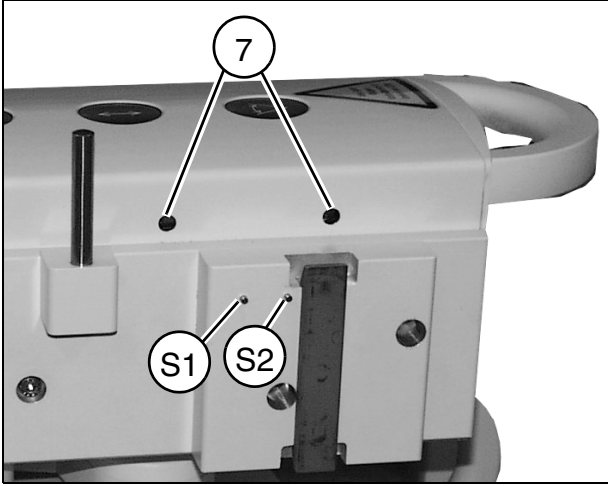

Fig. 29
- Tighten the plate (9/Fig. 29) with a torque of 18 Nm.
- Tighten the plate (8/Fig. 29) with a torque of 10 Nm.
- When activating pin S1 (Fig. 29), the travel movement of the vertical column is blocked.
- When activating pin S2 (Fig. 29), both movement directions of the vertical column are blocked.
- The screws behind the opening (7/Fig. 29) should be loosened only. Move switch until switching function is activated and tighten screws.